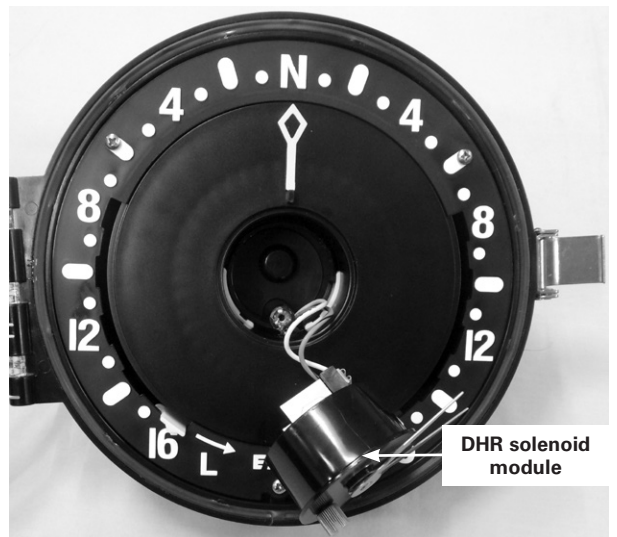

Figure 4. Module removal
6. With the thumb-screw fully loosened, pull on the DHR module to remove it from the position indicator face. See Figure 4.